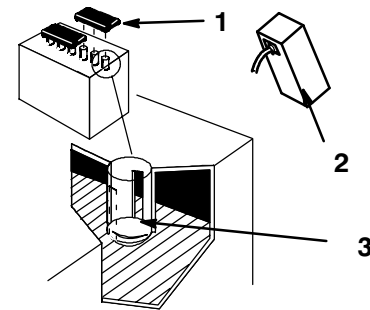

Figure 2
4. Remove filler caps from the battery. Slowly pour electrolyte into each cell until the electrolyte level is up to the lower part of the tube (Fig. 2).
- Slowly pour electrolyte into each cell until the level is once again up to the upper line on the battery case (Fig. 2) and install covers.